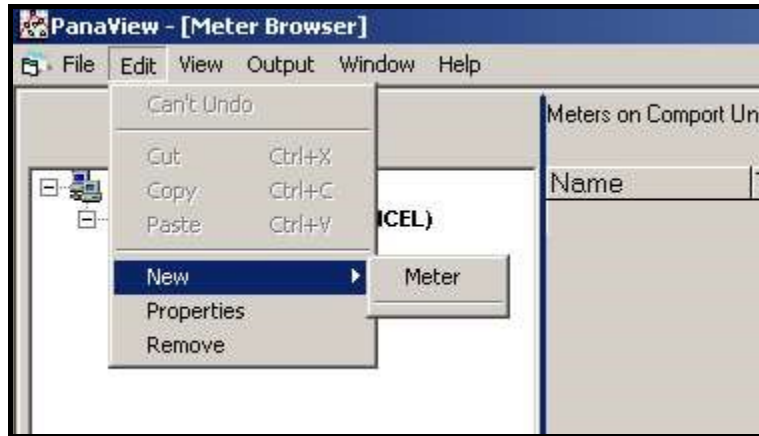

Figure C-4: "New" Option in the "Edit" Menu
2. Click on the "New" option in the "Edit" menu (see Figure C-4 below).